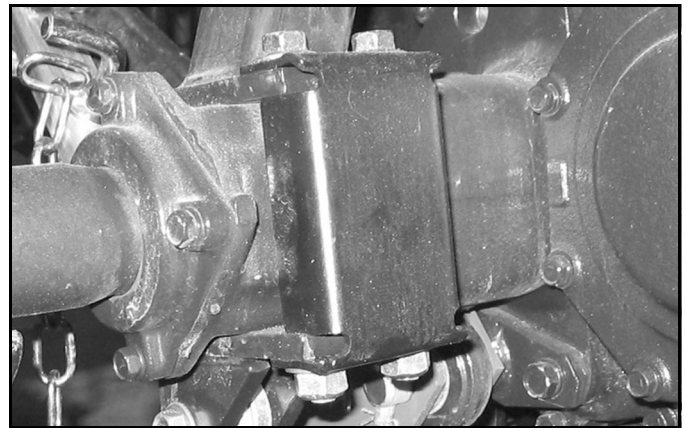

Figure 2. ROPS Hardware and Spacer - Right Side
5. Remove ROPS hardware and spacer from both sides of rear axle. See Figure 2.